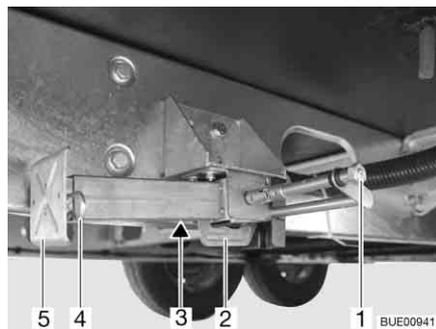

Fig. 45 Steady leg
- Place the socket spanner on the hexagonal nut (Fig. 45,1) and rotate until the steady leg is in a perpendicular downward position.
- If the length of the steady leg can be adjusted, remove the splint (Fig. 45,4) out of the support foot extension (Fig. 45,5).
- Place the socket spanner on the hexagon nut (Fig. 45,1) and rotate until the steady leg is clear of the ground.
- Push in the support foot extension (Fig. 45,5) and insert the splint (Fig. 45,4) in the drilled hole in the support foot extension.
- Rotate the hexagonal nut (Fig. 45,1) until the steady leg has swung upwards and the guide (Fig. 45,2) has reached the very end of the slot (Fig. 45,3).